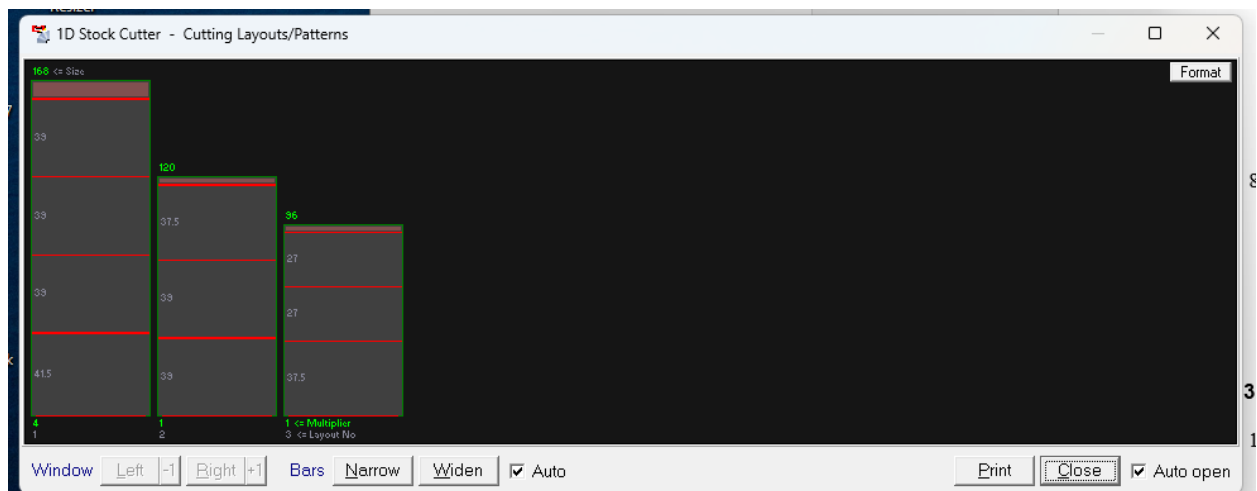

Figure A-3. 2x10 Cutting Layout.
6. Click on the Run button. This will generate a Cutting Layouts/Patterns window below the Stock Cutter window with a bar chart showing different lumber lengths and cut locations (see Figure A-3).
- Click on the Run button. This will generate a Cutting Layouts/Patterns window below the Stock Cutter window with a bar chart (see Figure A-3 for an example) showing different lumber lengths and cut locations.